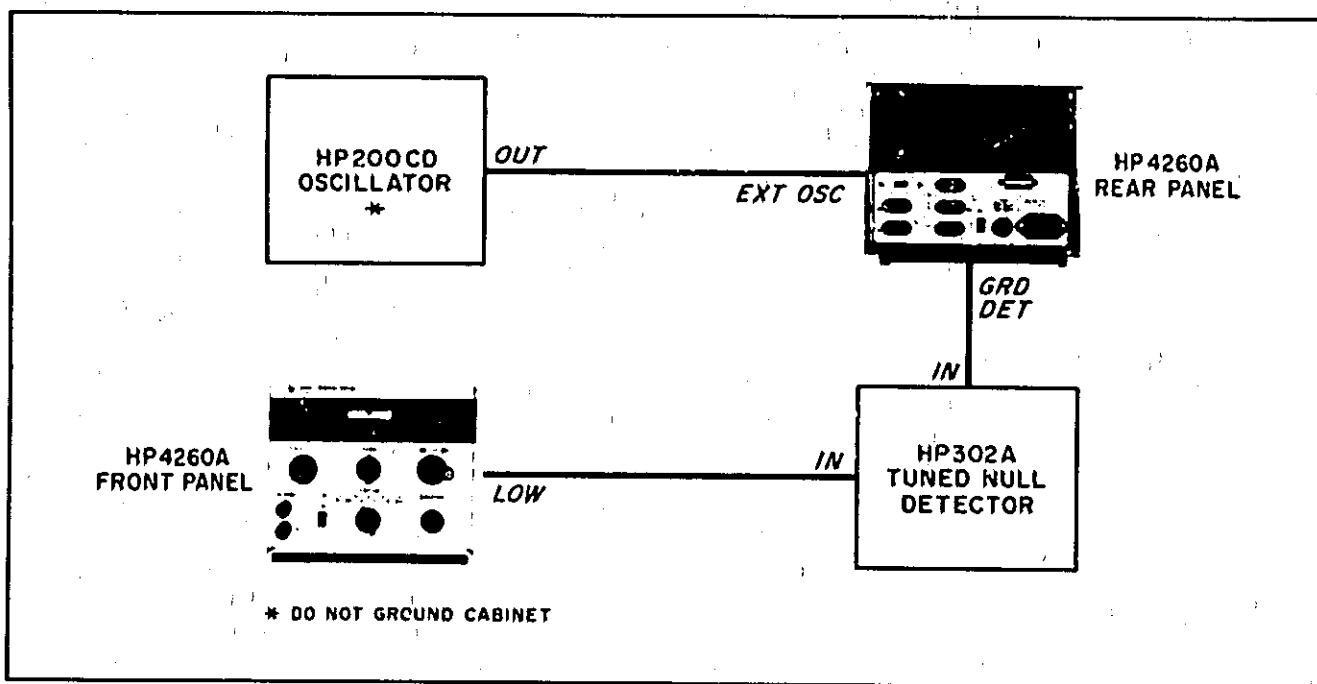

Figure 3-3. Operation with External Generator
3-47. For impedance measurements at frequencies other than 1 kHz (between 20 Hz and 20 kHz), connect the external oscillator and associated equipment as shown in Figure 3-3 and proceed.
- Set external oscillator output voltage to minimum and connect to EXT. OSCILLATOR terminals (see Figure 3-3).
Bridge null can be obtained using a tuned null detector with less than 90 dB gain connected to the DETECTOR terminals. (The DETECTOR terminals are connected to the output of the internal pre-amplifier.) For most accurate and sensitive measurements, the method shown in Figure 3-3 is recommended.